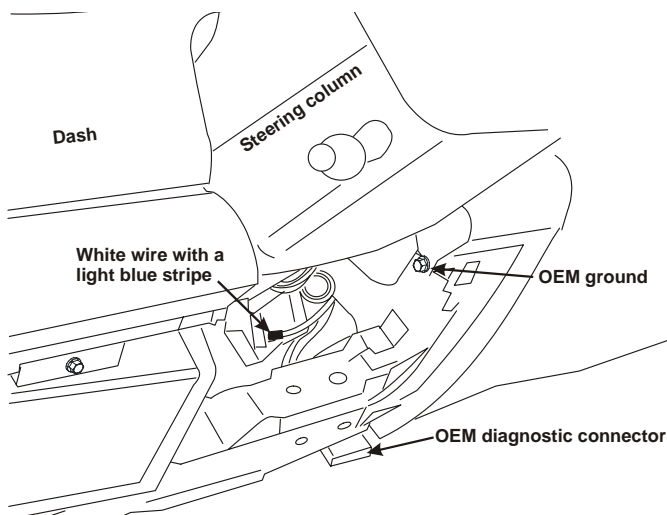

Figure 4.6
- ☐ Connect the green “ground” wires from the throttle control box and the interface connector to the dashboard ground point above the diagnostic connector (Figure 4.6).
- ☐ Connect the red “key switched 12V” wire to the OEM white wire with a light blue stripe (CCT #294) under the dash above the OEM diagnostic connector (Figure 4.6) using a butt connector.